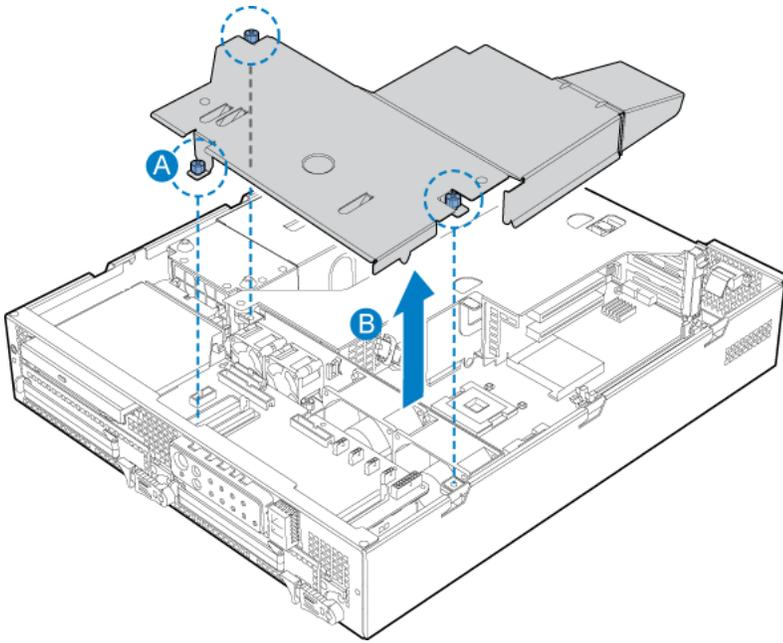

Figure 13: Processor air duct
1. Place the processor air duct over the processor socket and four-fan assembly. Make sure you do not pinch any wires beneath the edges of the air duct. Refer to Figure 13: Processor air duct on page 73.